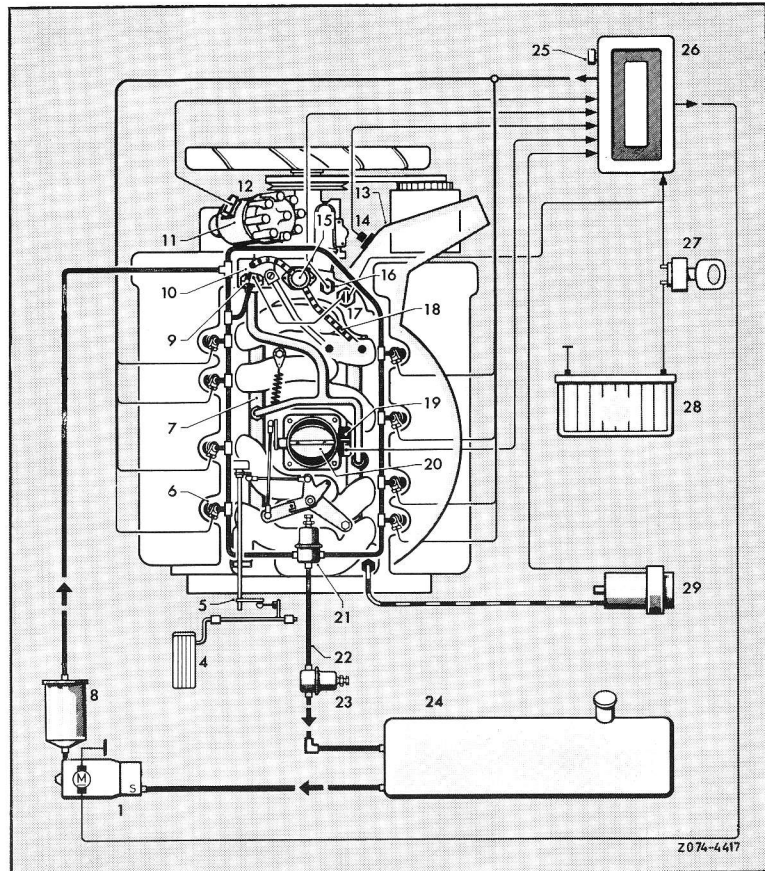

Fig. 1
Noises in the fuel return line (22) are eliminated by a diaphragm damper (23). The delivery capacity of the fuel pump is essentially above the max. required fuel quantity and guarantees excellent flushing of delivery lines (pressure lines) to prevent vapor lock (Fig. 1).